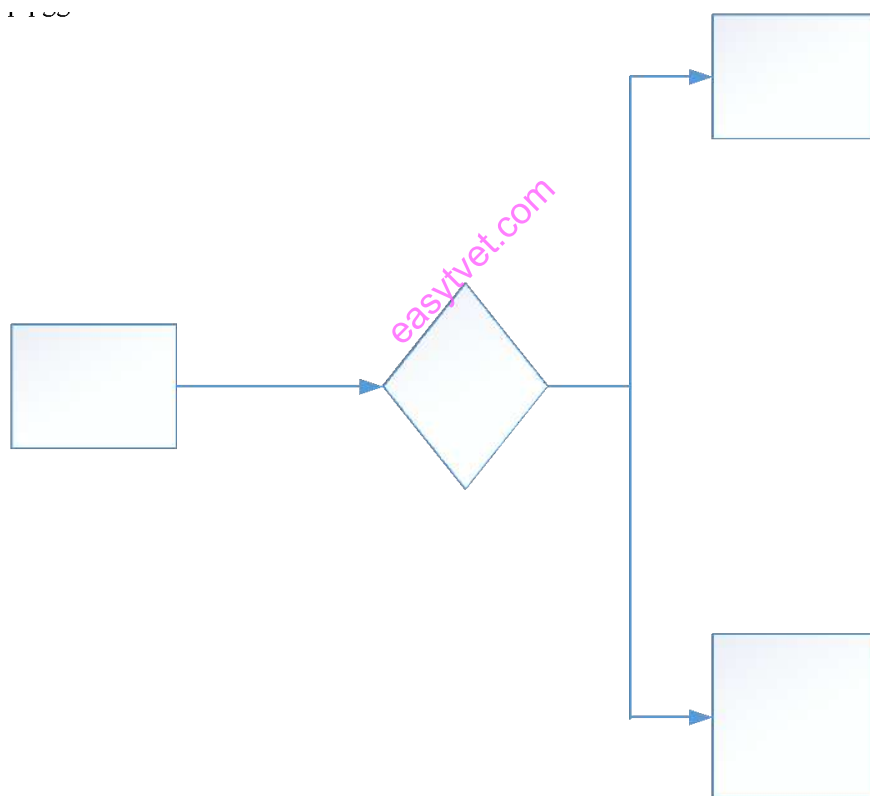

Figure 1 Breakdown maintenance flow chart
4. Withdraw the key from pinion coupling pulley etc. and then withdraw pinion, etc . See figure 1 for these operations.